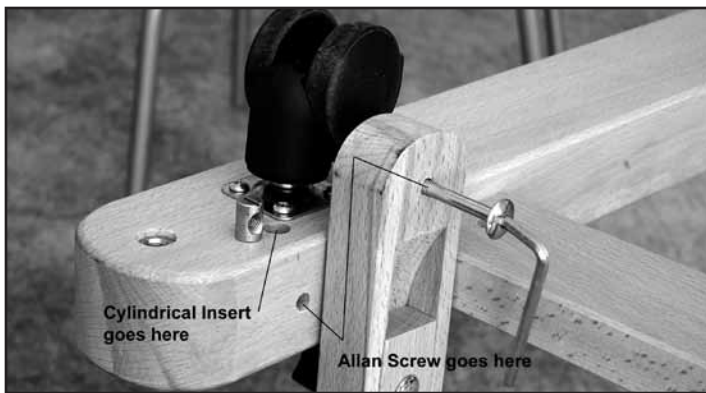

Fig. 2f - Fastening back legs to base.
2f. Put a Cylindrical Insert (J) into the hole indicated in Figure 2f, below. Using the Medium Allen Screws (F), attach the base to each Rear Leg by inserting the Allen Screw (F) into the hole (also show in Figure 2f). Use the Allen Key (H) to tighten the screw in place (remember to make sure that the slit of the Cylindrical Insert lines up with the screws).